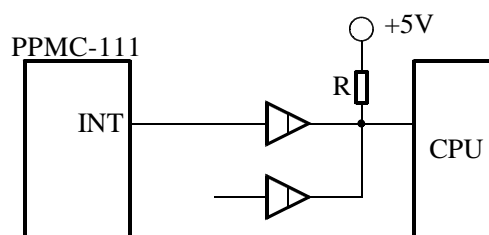

Fig. 2-7 Sample Connection of PPMC-111 Interrupt Output Signal
- (1) The command code or parameter that **PPMC-111** has received from the host processor is incorrect.
- (2) Termination interrupt control of the command code to **PPMC-111** is authorized and the pulse output of **PPMC-111** has finished.
The \overline{INT} signal, which is normally high, goes low when either above condition (1) or (2) is met. The \overline{INT} signal terminal is not an open collector. To connect a multiple interruption, therefore, provide an open collector buffer as shown in Fig. 2-7.